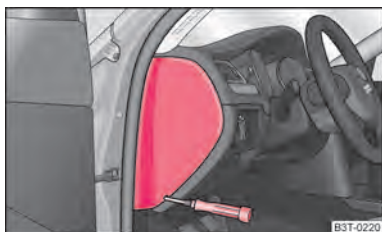
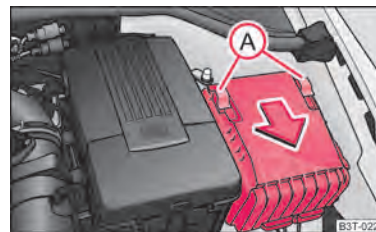

Fig. 198 Fuse cover: left side of the dash panel
Fig. 199 Fuse cover in engine compartment
- Use a screwdriver to take off the fuse cover on the side of the dash panel ⇒ fig. 198 or the fuse cover in the engine compartment ⇒ fig. 199.
- Move the circlips (A) ⇒ fig. 199 as far as the stop, the symbol ⚠ appears behind the circlip and remove the cover.